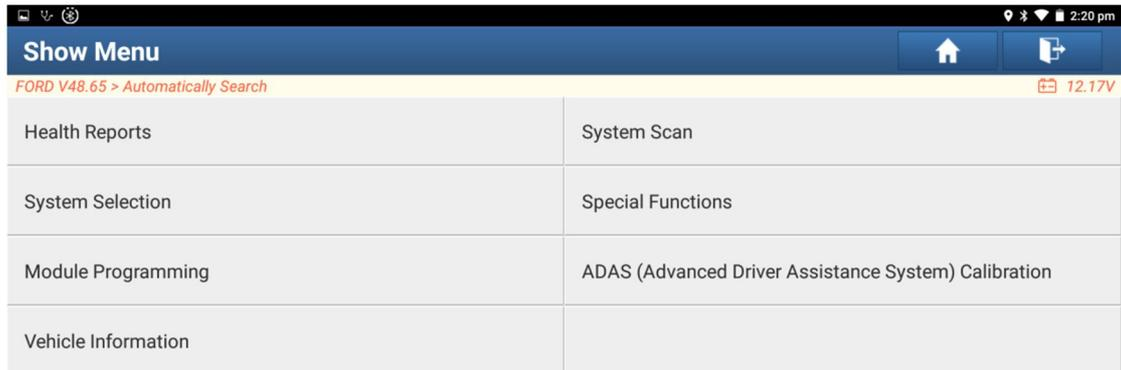

Figure 4
3. Select [Special Features] or select [ADAS (Advanced Driver Assistance System) Calibration] (Figure 4).